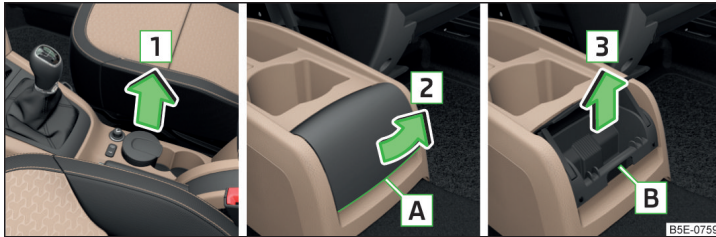

Fig. 83 Low centre console: Remove front ashtray / open rear ashtray / remove rear ashtray
- Remove the ashtray in the direction of the arrow **1** **»** Fig. 83.
- Grasp the ashtray cover at the lower edge **A** and fold it open in the direction of arrow **2** **»** Fig. 83.
- Grasp the ashtray at the handle **B** and remove in direction of arrow **3** **»** Fig. 83.